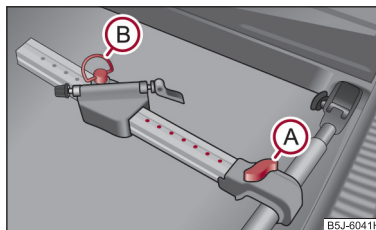

Fig. 69 Install bicycle carrier
- Position the approved bicycle carrier on the middle of the cross member, after pulling up the screw (A) push the frame side rail (alu-part) towards the cross member and screw the screw (A) into the nut ⇒ fig. 69.
- Slacken the screw (B) and take it out of the moveable part of the fixture; position the moveable part of the carrier, depending on bicycle size, into one of the possible positions, so that it does not come in contact with the boot lid. We recommend to place the moveable part of the fixture in such a position that the holes are visible between the screw (A) and the moveable part.
- Insert the screw (B) into the desired position and tighten. ■
- Slacken the screw **(A)** ⇒ **page 70, fig. 69** and push the bicycle holder together with the attached bicycle to the left (in the direction of the arrow), so that no collision between the steering arm and the side window of the luggage compartment can occur.